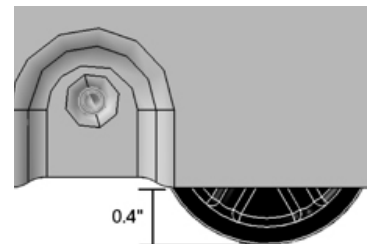

Fig. 7
- d. Attach remaining 3 Leveler Assemblies as described in the previous 3 steps using the remaining 6 4H bolts and the remaining three 5H bolts. With the unit(s) still on their backs, adjust all leveling wheels to approximately the orientation in Fig. 7.